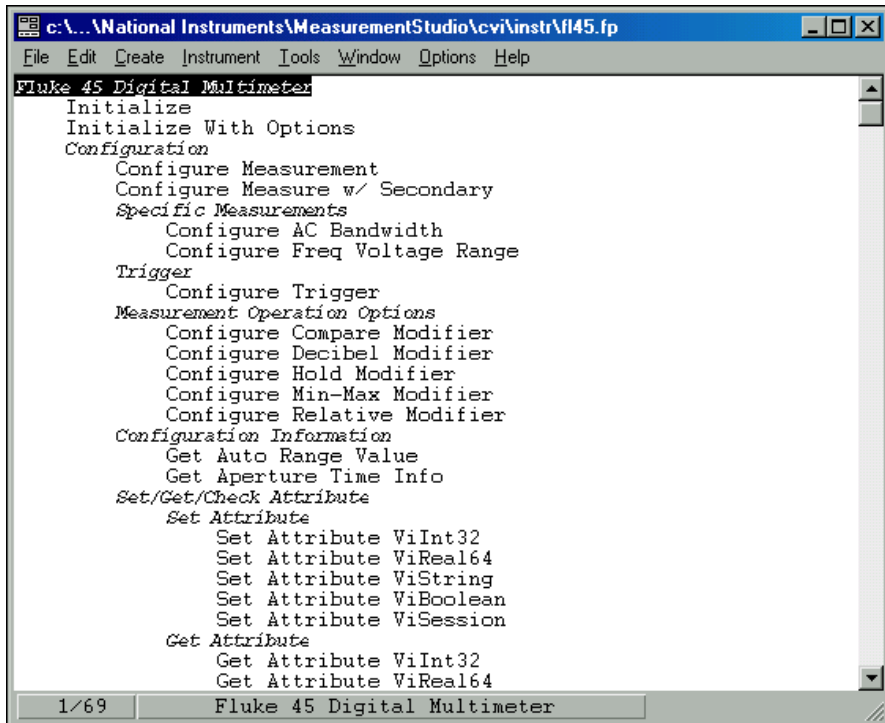

Figure 5-16. Fluke 45 Function Tree
1. Select **File»Open»Function Tree (*.fp)** to open the fl45.fp function panel file. The function tree appears as shown in Figure 5-16.